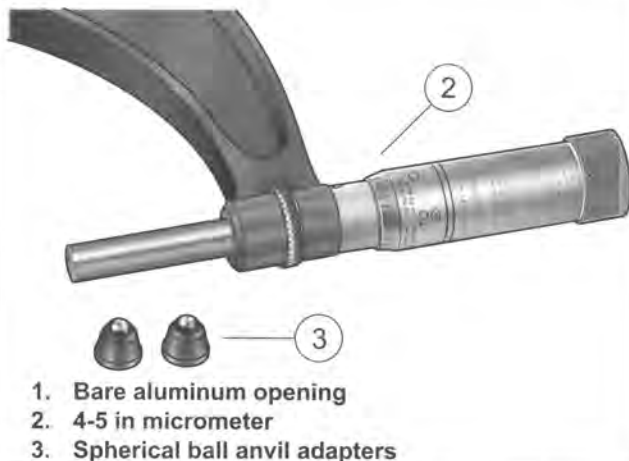

Figure 3-61. Measuring Running Clearance of Piston
- See upper frame of Figure 3-61. Piston measurement is taken on the bare aluminum for greatest accuracy. The coating has an oval-shaped opening (1) on each side of the piston for proper micrometer placement.
- See lower frame of Figure 3-61. The oval openings are too small for a standard flat anvil micrometer which would result in measuring errors. Use a blade or ball anvil style micrometer to measure piston.
5. See Figure 3-61. Measure running clearance of pistons as follows:
- a. Measure the piston skirt at the bare aluminum openings (1) in the coating. Transfer that measurement to dial bore gauge.